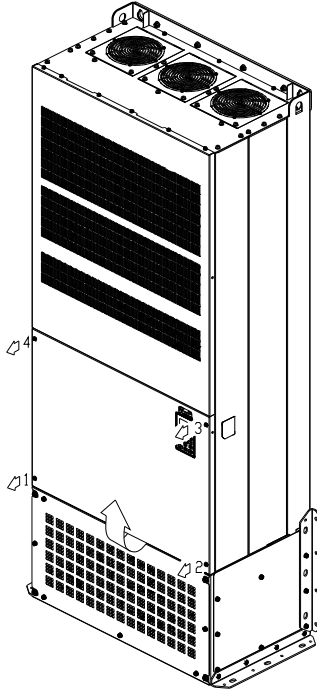

Figure 1
- Loosen the screw 1–4 and remove the top cover 2. (figure 1) Screw torque: 14–16 kg-cm / [12.2–13.9 lb-in.] / [1.4–1.6 Nm]